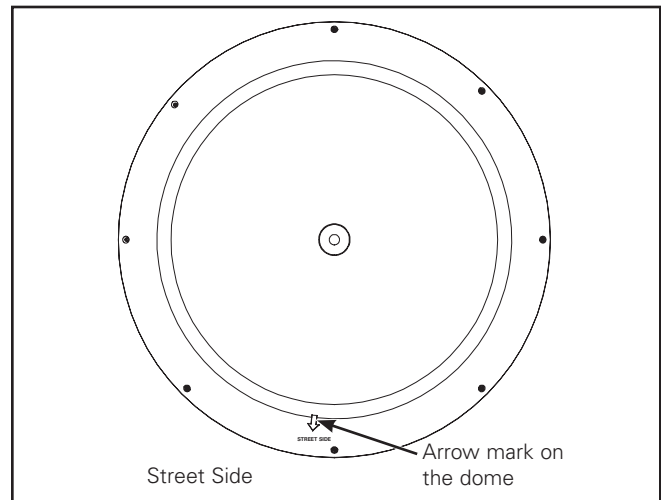

Figure 3.
5. For luminaire with asymmetric optics, rotate the fixture according to arrow mark on the dome towards the street side. (Figure 3.)